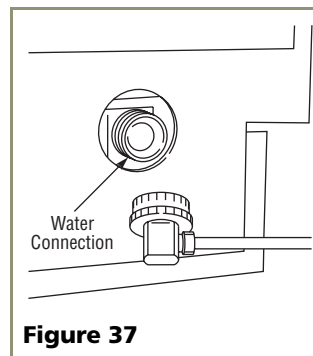

Figure 37
1. Install the 1/4 inch OD copper water line from the main water source (see **Figure 37**).